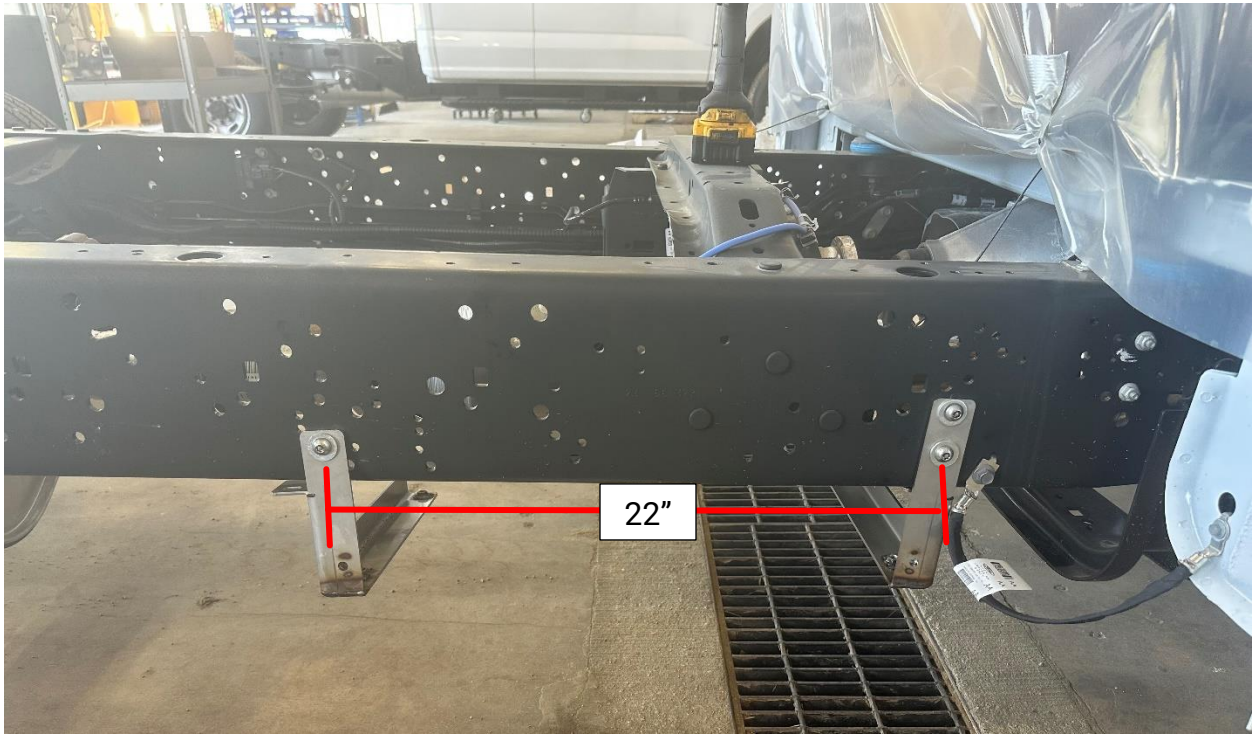

Figure 2
- B. Place the rear bracket on the frame so it is 22" center to center from the front bracket. See Figure 2